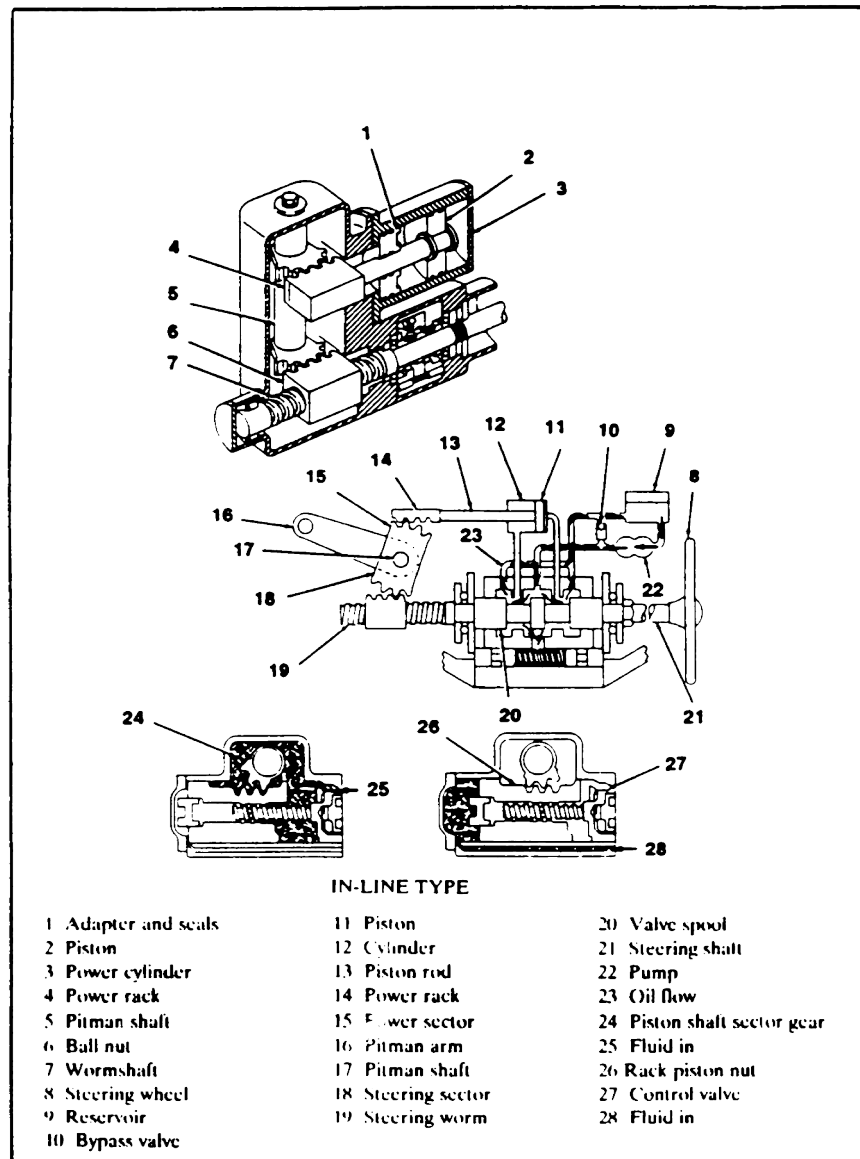

FIGURE 53. POWER STEERING GEARBOX
- The in-line design uses the recirculating ball nut assembly as the power piston. The ball nut is scaled inside a cylindrical part of the steering gear housing. The power assist is produced by alternately pressurizing one side of the power piston. Figure 53 shows the components of a power steering gearbox.